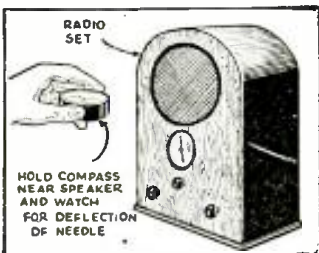

Fig. 4. Compass aids in service work.
**"DEFECTIVE SPEAKER" TEST.** This may be made without touching the receiver and is often quite a time saver. With the compass held near the speaker as seen in Fig. 4, a sharp movement of the needle will be seen when the set is turned on, if the speaker coil and the energizing system are in good condition. Under certain conditions